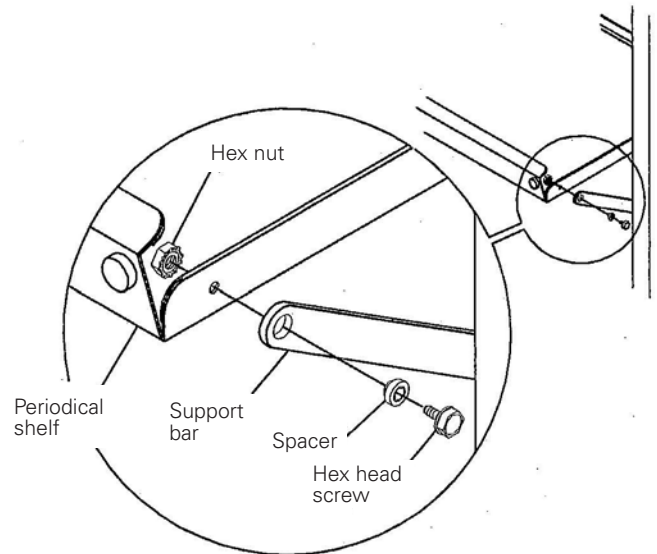

Figure 5
5. Thread one spacer onto each of the hex headed self tapping screws as shown in Figure 5. Assemble the support bars to the pivot brackets using the two screw/spacer assemblies. (Bars should pivot freely without binding). Install hex nuts in screws.